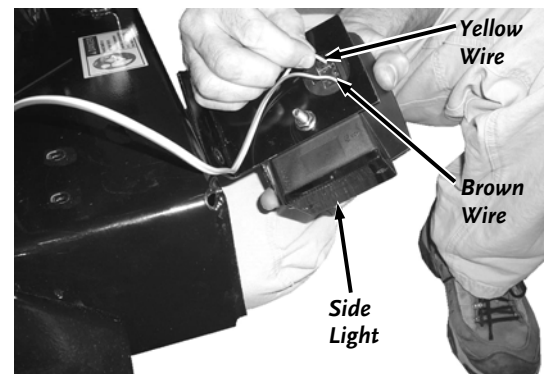

Figure 63
5. Push the Yellow Wire into the top left hole in the back of the light socket and push the Brown Wire into the top right hole (**Figure 63**).